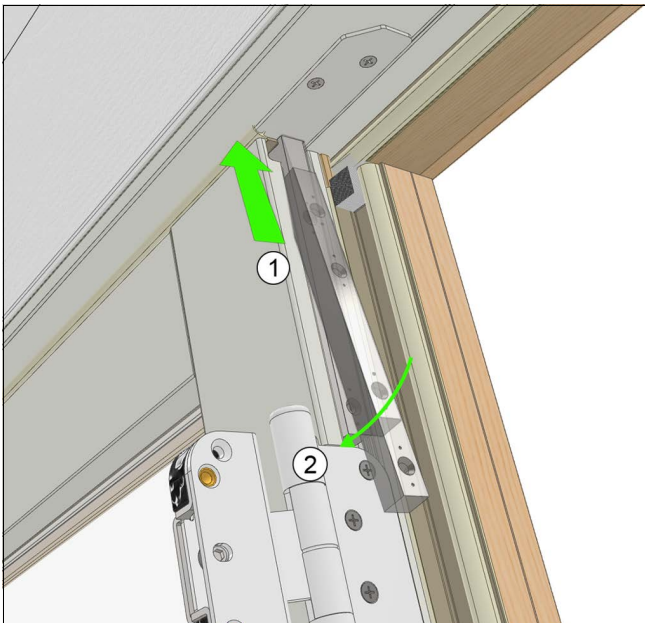

Figure 29
4. Seat the lock bar into the panel Eurogroove and up into the head jamb strike aligning top hole on lock bar to the removed screw hole already in the panel. See Figure 29. *Be mindful not to overshoot the bolt as this will cause the header to bow upward.*